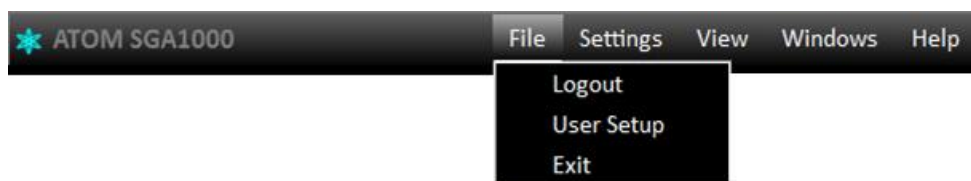

Figure 2.5 – User Already Logged In
**NOTE:** The dropdown menu will read Logout if a valid login has already been entered (*Figure 2.5*).